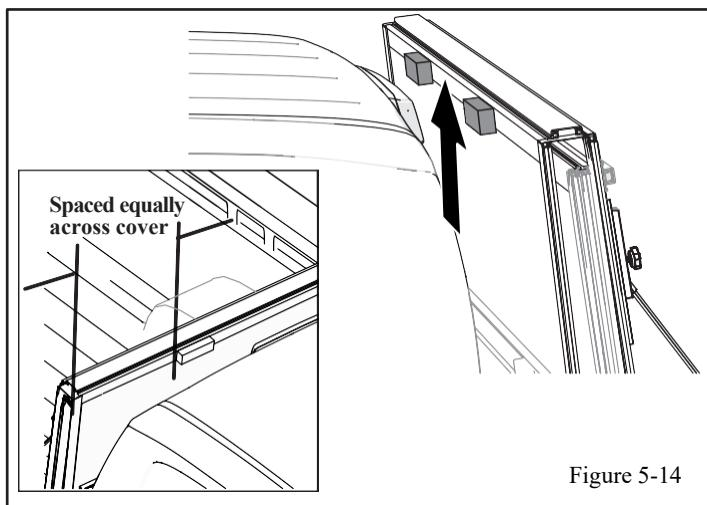

Figure 5-14
- (n) Install the two cab bumpers along the top edge of the cover equally spaced from left to right. (Figure 5-14)